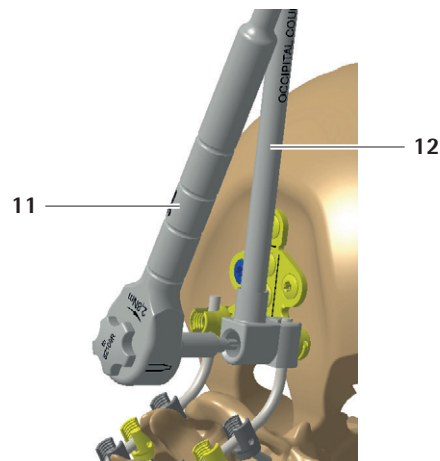

Fig. 14
- ▶ If not already in place, insert the counter torque wrench 12 (SZ110R) over the rod receptacle, see Fig. 14.